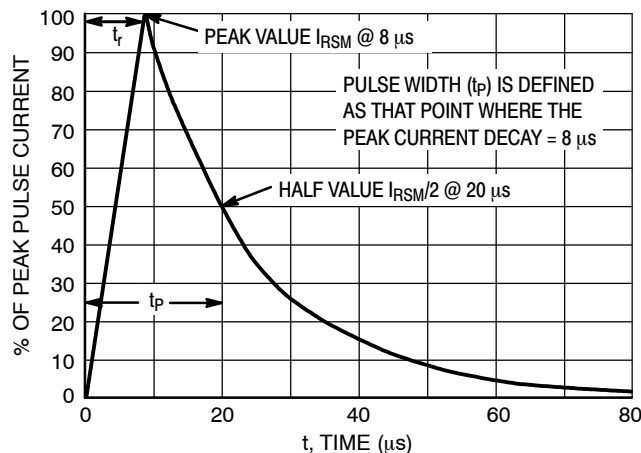

Figure 5. 8 X 20 μ s Pulse Waveform
1. Nonrepetitive current pulse per Figure 5 (Pin 5 to Pin 2).
- Nonrepetitive current pulse per Figure 5 (Pin 5 to Pin 2).
- Surge current waveform per Figure 5.